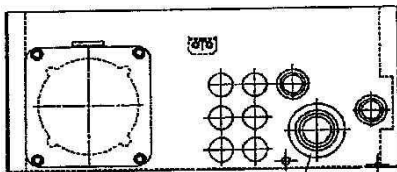

Figure 4
5. Remove branch circuit knockouts (Figure 4)